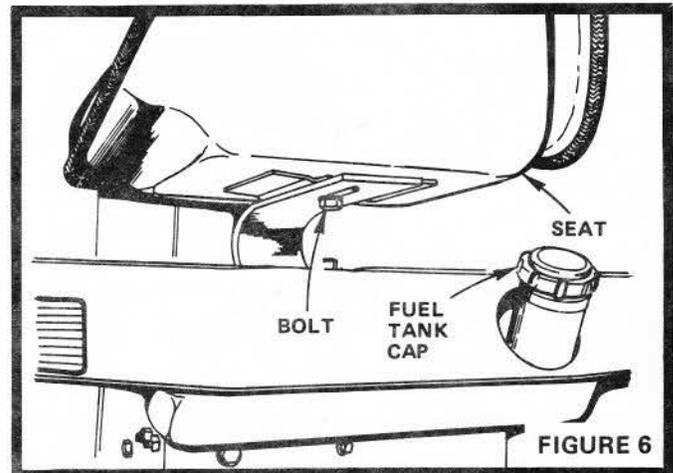

FIGURE 6
2. Seat position may be adjusted forward or backward by loosening Bolt in Seat Plate (Fig. 6). NOTE: WHEN RETIGHTENING BOLT AFTER ADJUSTMENT, MAKE SURE SEAT PLATE HAS NOT TWISTED OUT OF ALIGNMENT WITH SEAT SPRING.
2. Fill Fuel Tank (Fig. 6) with fresh, clean regular grade leaded or low-lead automotive gasoline only. Capacity is 3 - 1/2 gallons. NOTE: DO NOT SWITCH FROM LEADED TO LEAD-FREE GASOLINE.